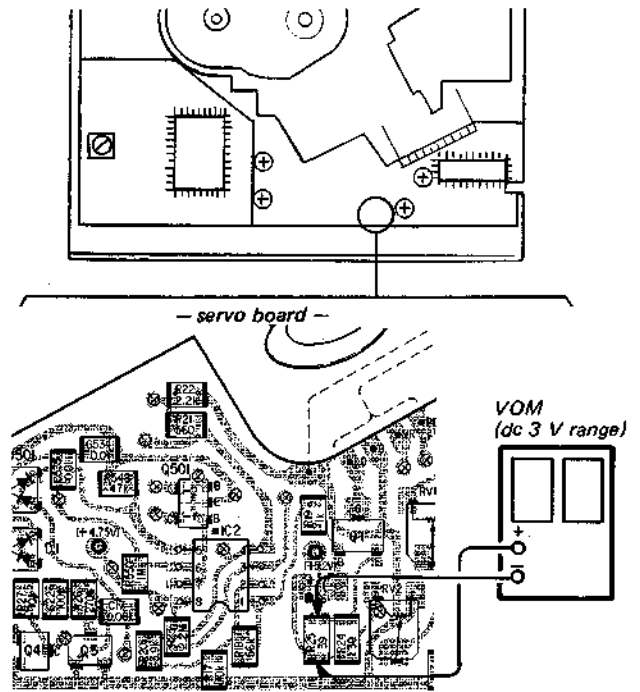

Fig. 6 VOM Connection
3. Connect a VOM as shown in Fig. 6.
5. Calculate the current by the VOM reading.  $VOM \text{ reading (V)} \div 19.5 = \text{current (A)}$